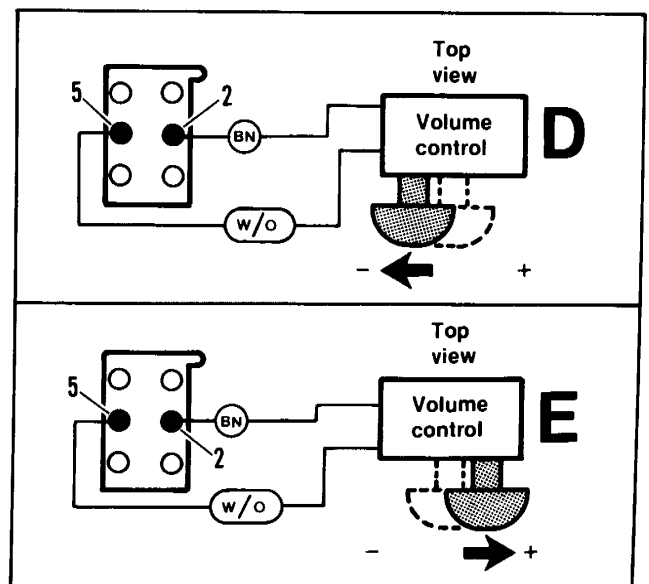

Figure 2-122. Volume Switch Test
4. Refer to Figure 2-122, View D. Place ohmmeter probes on connector pins (5) and (2), and move volume control knob to extreme left (when facing switch) or 'minus' side. Meter should register approximately two (2) ohms. Leave probes on pins (5) and (2), and move control knob to extreme right, or to 'plus' side. Meter should register 50,000 ohms. If meter readings vary significantly from the recommended readings, replace switch.